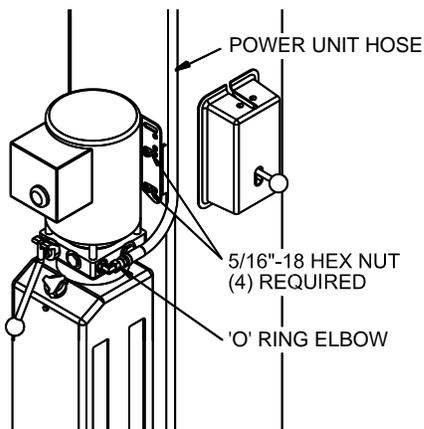

Fig. 12 – Power Unit Mounting
- 27) Mount power unit to power column as shown in **Fig. 12**. The mounting hardware, (4) 5/16"-18 hex nuts, are pre-installed on power unit mounting bracket.
- 31) Thread 9/16-18 O-ring elbow (*in hardware box*) into power unit. Attach free end of power unit hose to elbow. See Fig. 12. CAUTION do not damage rubber O-ring.